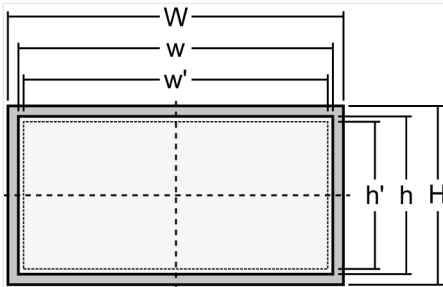

Fig. 11: Cutout schematic
- 1. > Cut out the panel according to the dimensions in Fig. 11.